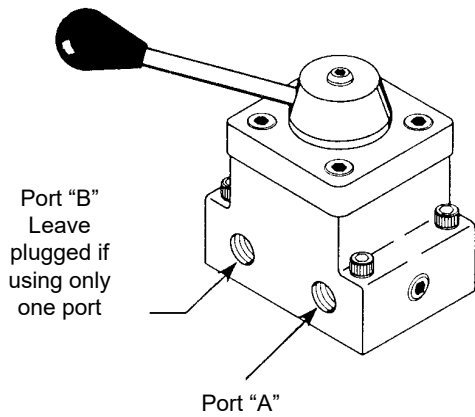

Figure 2
- If this valve is to be used as a 3-way with single-acting cylinder(s), one port (A or B) must remain plugged (use steel plug). (Figure 2)